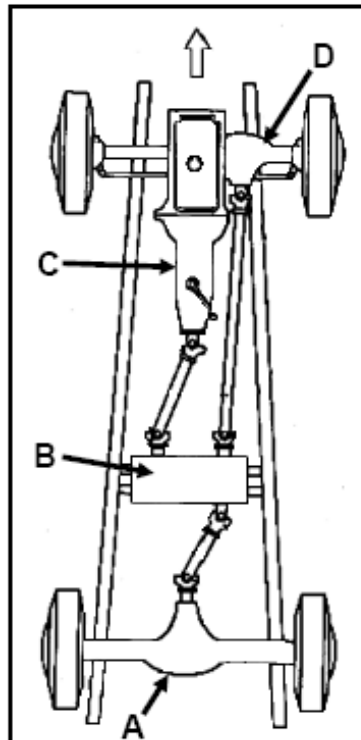

FIGURE 11.6
11.6 FIGURE 11.6 below shows the drive system of a motor vehicle. Answer the questions that follow.
11.6.1 Identify the type of drive system shown in FIGURE 11.6. (1)